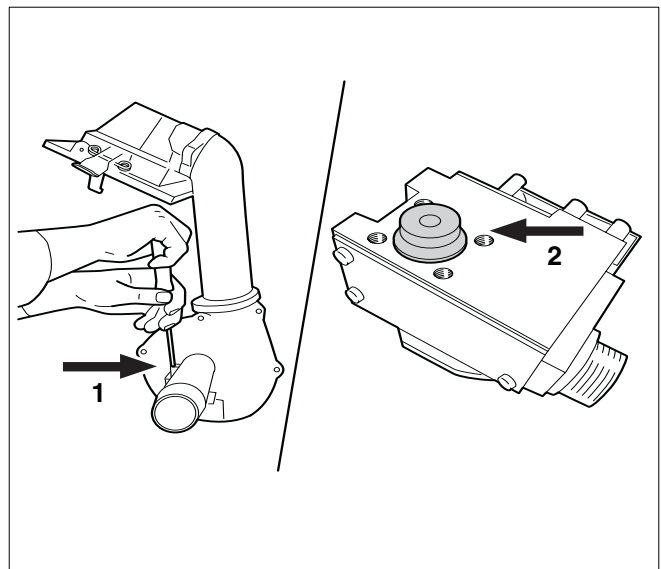

Fig. 139 Replacing the gas orifice
- Loosen the three crosshead screws and remove the gas burner fitting from the fan unit (fig. 139, pos. 1).
- Remove the gas orifice (fig. 139, pos. 2).